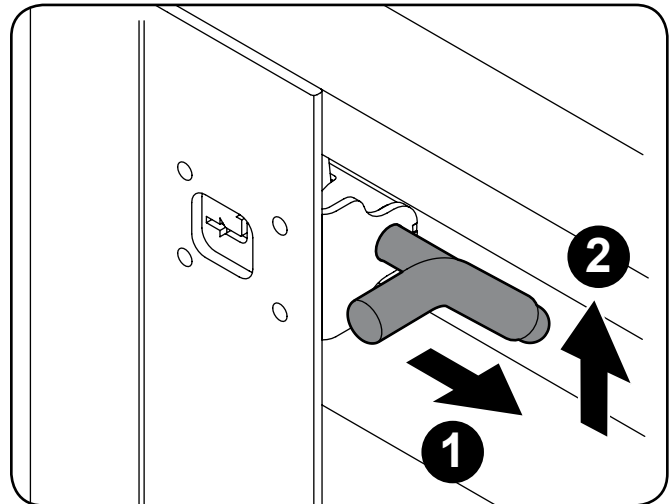

Figure 4-6
3. If equipped with an aluminum cargo box, unlatch the tailgate from the cargo box. See "Figure 4-6".
1. Remove latches from the tailgate and sides. See "Figure 4-6".
2. Remove latches from the tailgate and sides. See "Figure 4-6".